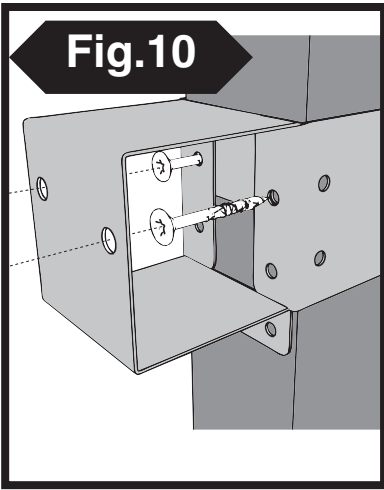
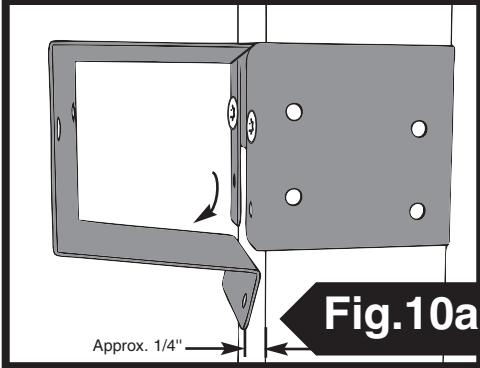

Fig. 10
Fig. 10a
1. Install 4" x 4" as shown in (Fig. 9), (Fig. 10), (Fig. 10a), and (Fig. 10b)